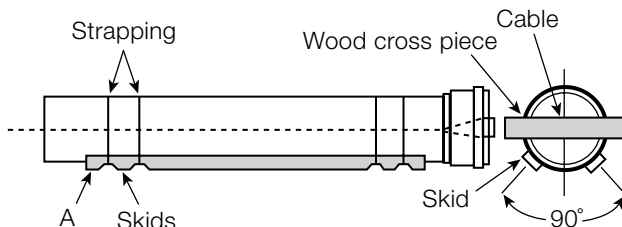

Figure 5
tween the bells and the casing bottom. Normally 2 to 4 skids are only placed on the pipe spaced at 90 degrees as shown in Figure 5. For pipe larger than 18 inches, six skids should be placed at 60 degrees around the pipe.
1. Arrange the skids and position braces on the pipe as shown in Figure 5. They will accommodate the grouting hose.